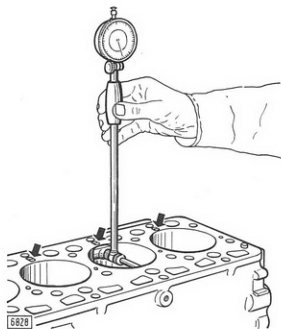

Fig. 7 - Checking Cylinder Liner I.D. using a Dial Gauge
A.M. standard liners are graded as A and B according to their bore (see Data Table). The letters are stamped on the block top next to each liner (see Fig. 7). P.M. liners are ungraded.